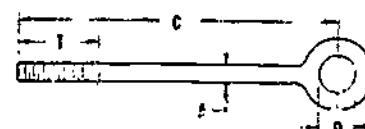

Figure 17-12. Welded-Eye Rod
n) The welded-eye rod (Figure 17-12) is often used where the upper end of the rod is to be bolted to an object. (Eye rods on which the eye is bent but not welded are also available, but they do not have the strength of the welded-eye bolt.) When ordering them, dimensions A, C, D, and T must be specified.